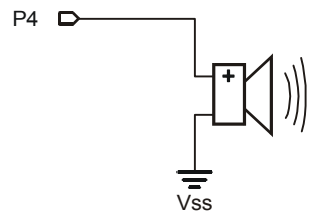

Figure 2-6
Whether it's a keypad on an alarm system, microwave oven, or a Boe-Bot, a speaker really helps let you know that the device understood when you pressed that digit key. The speaker shown in Figure 2-6 was already added to your Boe-Bot in Chapter 1, Activity #4. Up until now, it was only used to let you know that the program started (or spontaneously restarted due to low batteries).
- √ If you have not already done so, add the speaker circuit shown in Figure 2-6 to your Boe-Bot's prototyping area.